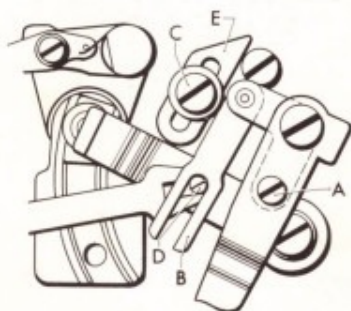

Fig. 14
1. Set the zigzag width lever at 0 position. Loosen width lever set screw (A) Fig. 14 to disconnect lever from zigzag regulating arm (B).
2. Loosen stopper set screw (C) Fig. 14 slightly.
3. Find a right position for non-zigzag movement by moving zigzag width stopper (E) along the slot, while turning hand wheel slowly.
4. Tighten the screw (C) securely.
5. Set zigzag width lever at 0 position. After making certain that there is no clearance between pin (D) and fork (B) tighten screw (A) securely to connect width lever with the zigzag mechanism.